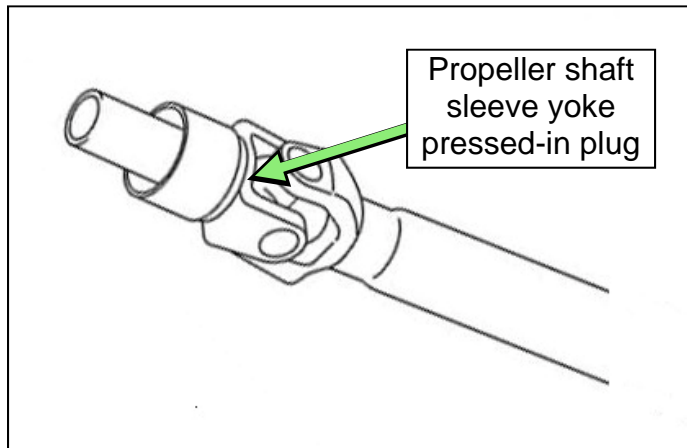
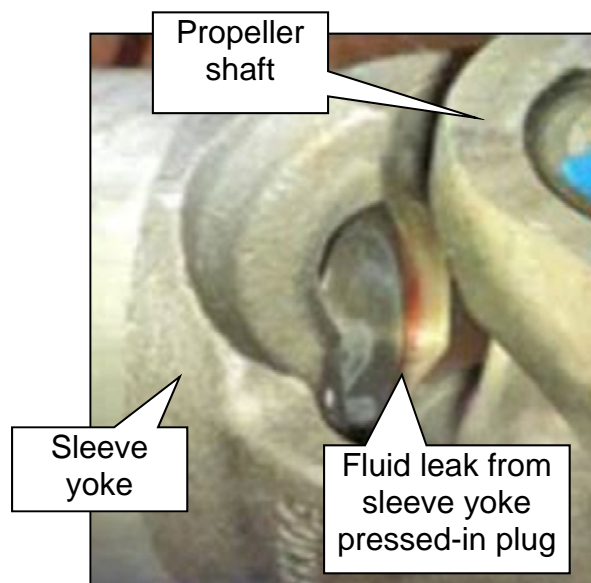

Figure 2
Figure 3
1. Without removing any components, closely inspect for the origin of the leak at the rear extension seal, and also at the propeller shaft sleeve yoke pressed-in plug (Figure 2 and Figure 3).